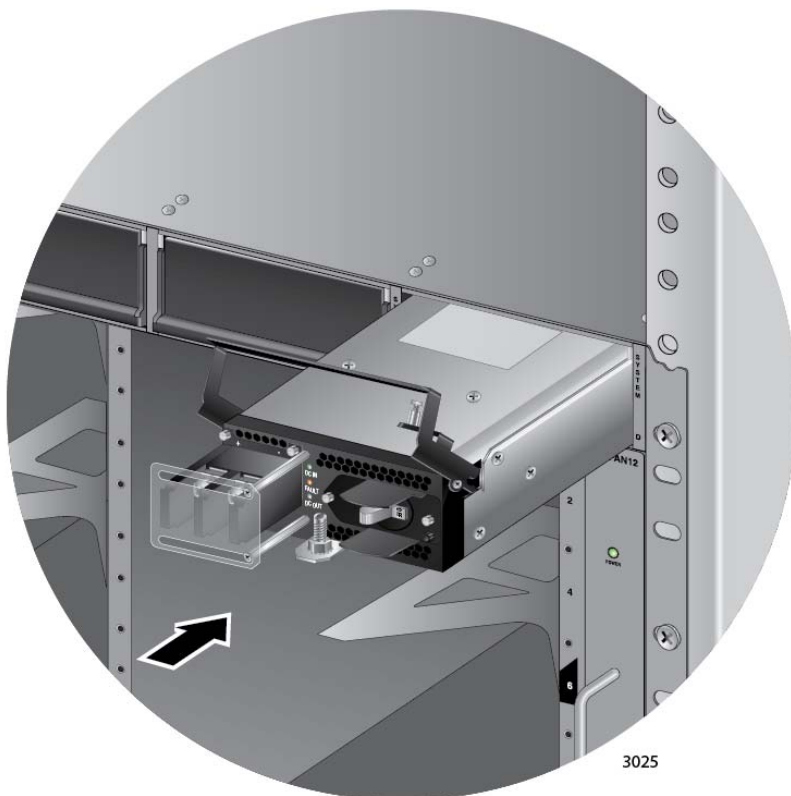

Figure 60. Inserting the AT-SBxPWRSYS1 DC System Power Supply
7. Align and insert the AT-SBxPWRSYS1 Module into slot C or D. Figure 60 shows the power supply installed in slot D.